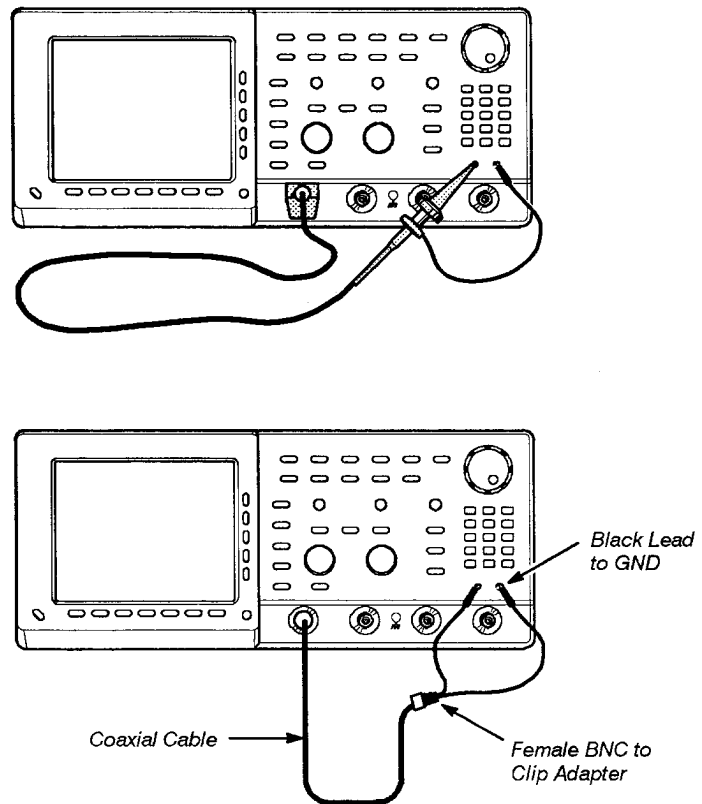

Figure 4-20: Initial Test Hookup
- For serial numbers B021799 and below, connect **CH 1** to **PROBE COMPENSATION SIGNAL** and to **PROBE COMPENSATION GND** through a probe as is shown in the top hookup illustration of Figure 4-20.
- For serial numbers B021800 and above, connect **CH 1** to **PROBE COMPENSATION SIGNAL** and to **PROBE COMPENSATION GND** through a precision coaxial cable and a BNC to clip adapter as is shown in the bottom hookup illustration of Figure 4-20.